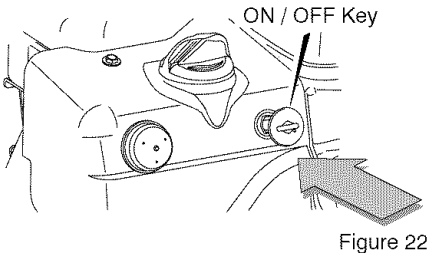

Figure 22
5. Remove the ON/OFF keys from the plastic bag. Insert one of the ON/OFF keys into the key slot (see Figure 22). Make sure the key snaps into place. **Do not turn the ON/OFF key.** Keep the second ON/OFF key in a safe place.